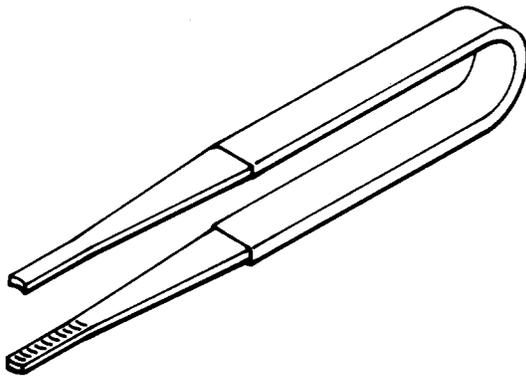

Fig. 3—Pin and Socket Insertion Tool
1—Part No. 91002-1, Pin and Socket Insertion Tool (Fig. 3)*
- 1—Part No. 91002-1, Pin and Socket Insertion Tool (Fig. 3)*
- 1—Part No. 91002-1, Pin and Socket Insertion Tool (Fig. 3)†